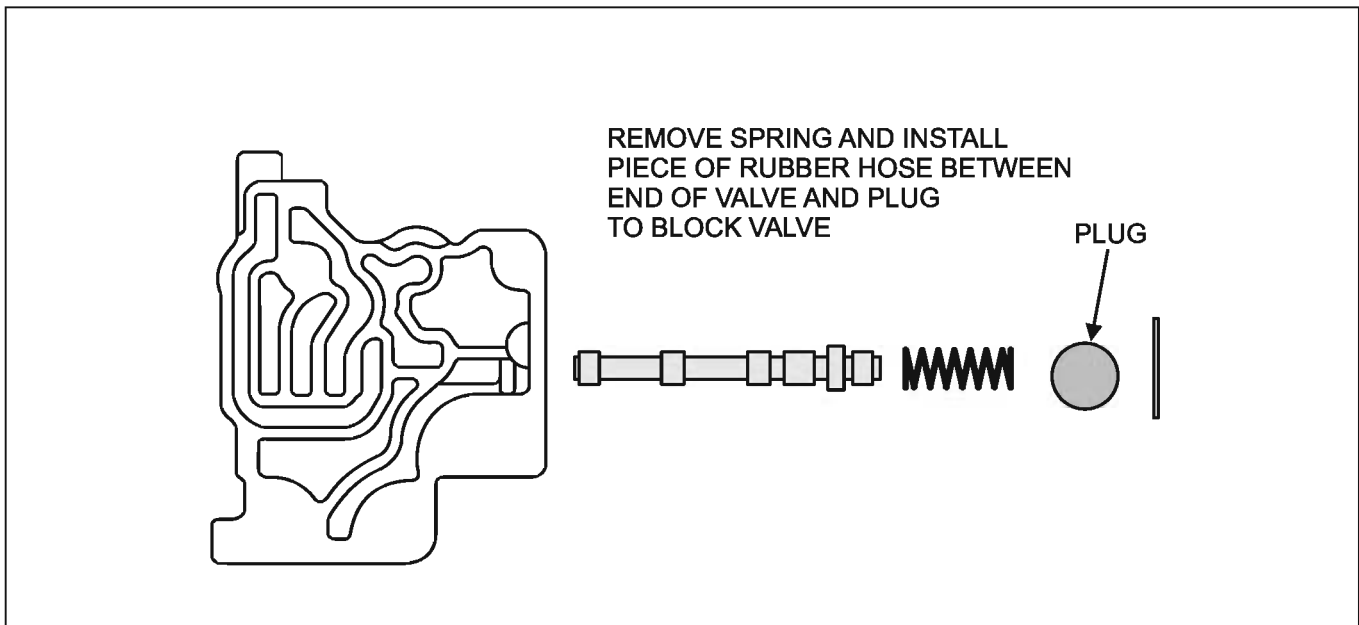

Figure 79
- 4 - Remove roll pin and bore plug and spring from auxiliary valve body, *as shown in figure 79*.
- 5 - Install piece of rubber hose in place of spring and install bore plug and pin, *see figure 79*.